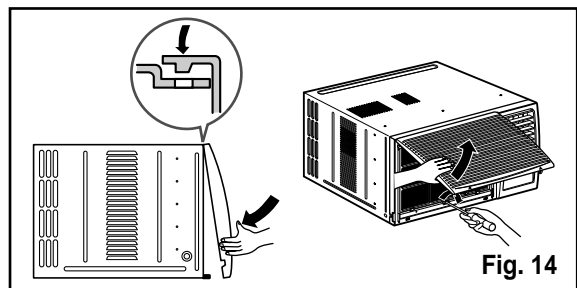

Fig. 14
10. Attach the front grille to the cabinet by inserting the tabs on the grille into the tabs on the front of the cabinet. Push the grille in until it snaps into place. (See Fig. 14)
11. Lift the inlet grille and secure it with a screw (Type A) through the front grille. (See Fig. 14)